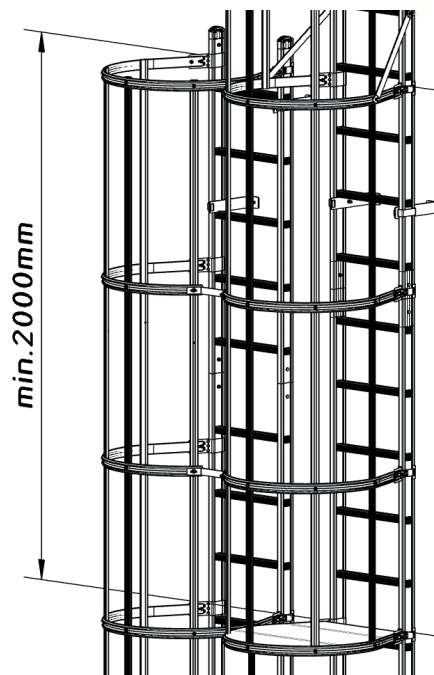

Figure-2 – Overlap Distance of the Safety Cage
- The cage overlap distance ( $D_o$ ) between the intermediate platform and the upper ladder must be  $\geq 2,000$  mm. (see Figure-2)